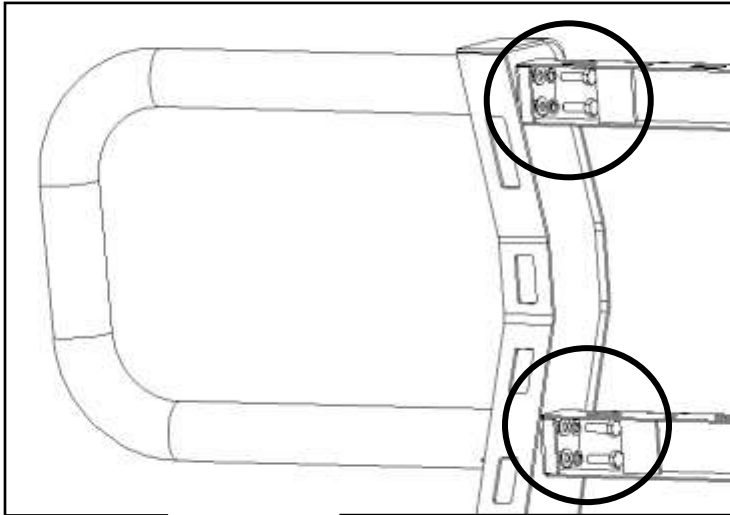

Figure 1
2. Begin by assembling the Light Channels (**Item 1**) to the Driver Side Wing (**Item 2**) using the provided M8 hardware (**Items 8-10**). See **Figure 1 and 2** for reference. *Note: If you are installing any kind of lights onto the Brush Guard, make sure the light mounting locations face in the direction you would like the lights to face once they are installed. If no lights are being installed, it is recommended that light channels are installed with mounting locations facing downwards for a smoother look.*